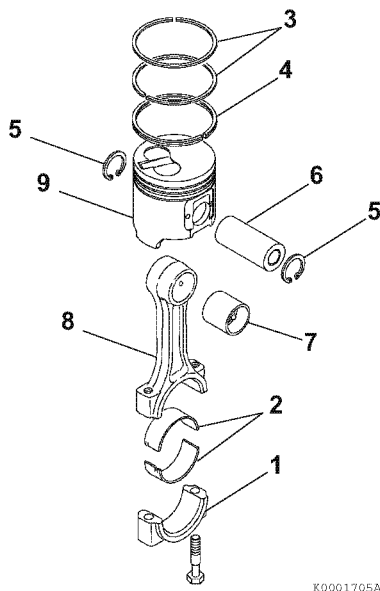

Figure 6-55
11. Remove the bearing inserts (**Figure 6-55, (2)**).
12. Remove the compression rings (**Figure 6-55, (3)**) from the piston using a piston ring expander.
13. Remove the oil ring (**Figure 6-55, (4)**) from the piston using a piston ring expander.
14. Remove the circlips (**Figure 6-55, (5)**) from the wrist pin.
15. Remove the wrist pin (**Figure 6-55, (6)**) and connecting rod (**Figure 6-55, (8)**) from the piston (**Figure 6-55, (9)**).